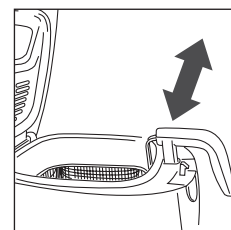

fig. 4
- To insert or remove the basket, push it forwards slightly as shown in fig. 4.